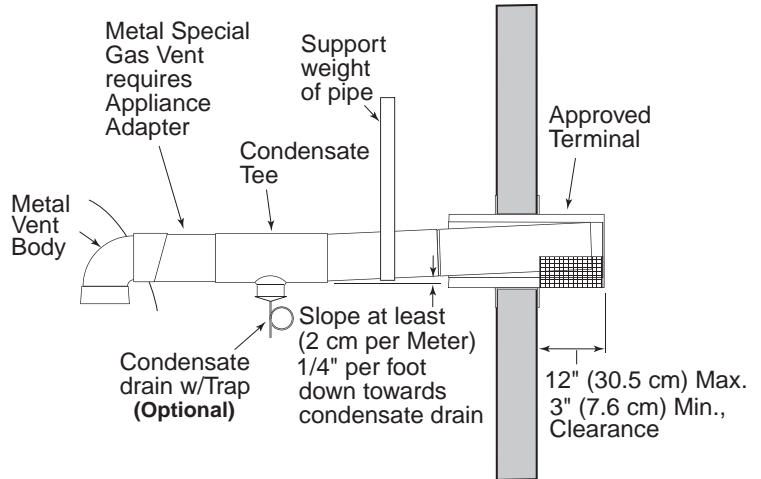

Figure 18.
- at least 76 mm (3 in) and at most 304 mm (12 in) out from the wall (see Figure 18), following the vent manufacturer's instructions